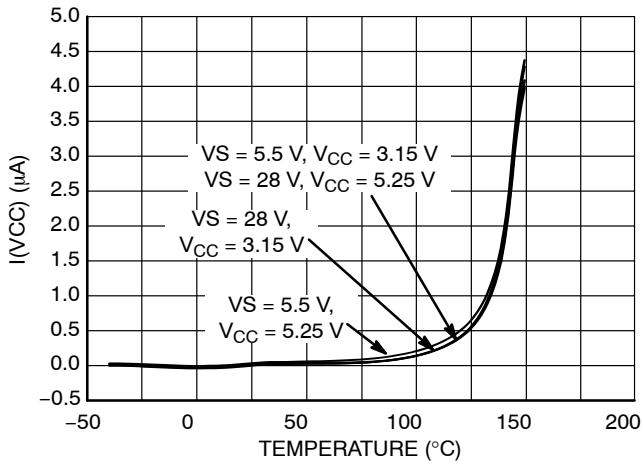

Figure 16. I(VCC) vs. Temperature
- Refer to Figure 16 for the V_{CC} standby current behavior.